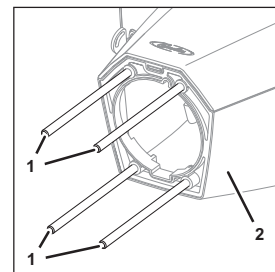

Fig. 20
- Remove the threaded bolts (Fig. 20/1), on the stand (Fig. 20/2) of the unit, by unscrewing the threaded bolts from the stand (Fig. 20/2).